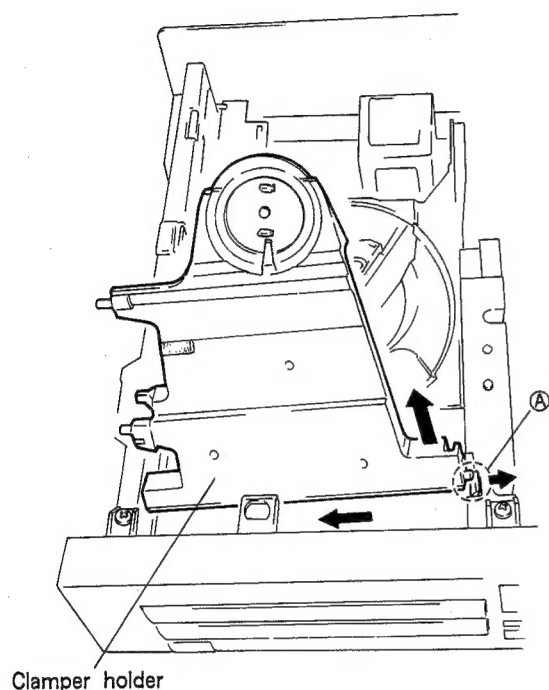

Fig. 2-1
1. Stand the clamber holder up and push the claw at ① section in Fig. 2-1 in the direction of arrow to remove the clamber holder.